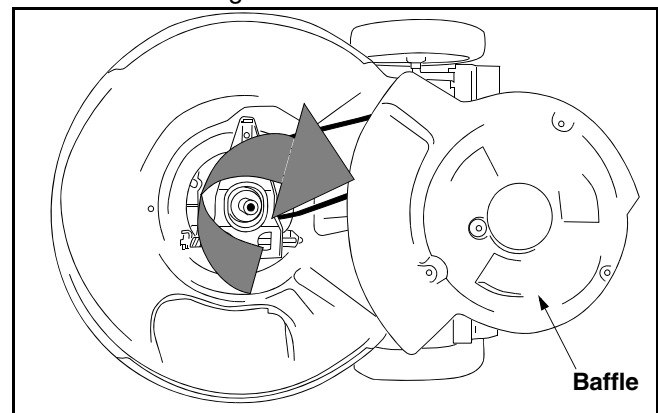

Figure 16
- Remove the three hex screws holding the baffle to the deck and pivot baffle towards the rear of the mower. See Figure 16.